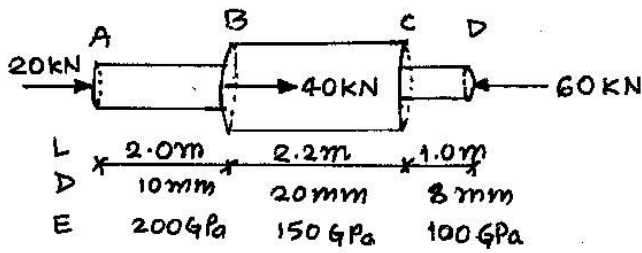

FIG 1. Q 1 (b)
- (b) Find stress and deformation in each part of rod ABCD shown in **fig.1.** **05**